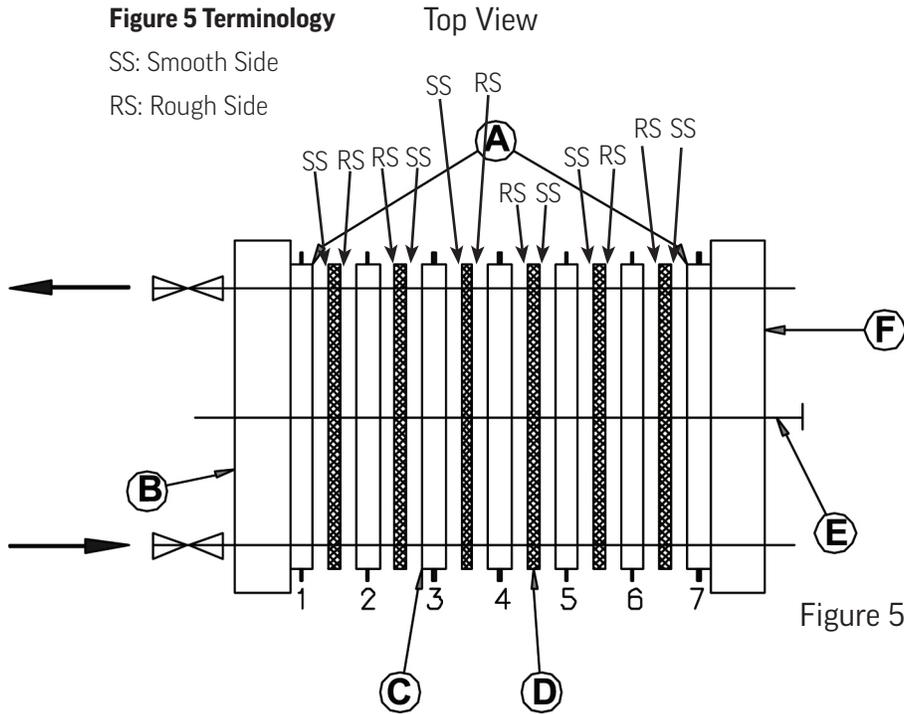

Figure 5
4. Apply food-grade lubricant to the closing screw (Figure 5, E) and ensure lubrication is applied to the entire rod. Afterward, remove any excess grease.
Each filter sheet has a directional flow that allows the liquid to pass through. The filter sheets have both a Smooth Side (SS) and a Rough Side (RS). The incoming product must enter from the Rough Side and exit from the Smooth Side to achieve filtration. Please refer to Figure 5 on how to insert the filter sheets correctly.
2. The inversion plate can be inserted at any spot in the filter as long as it is where the outgoing product goes (Figure 5, 1-3-5-7). This ensures that the inversion plate effectively separates the two different types of filter sheets and prevents mixing or bypassing of the filtration sheets.